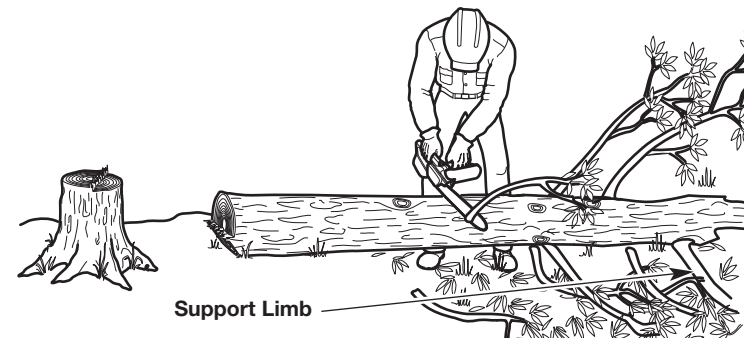

Fig. 18
1. Leave the larger support limbs under the tree for last (Fig. 18). These will keep the tree off the ground during the limbing process.
2. Cut one limb at a time. Stand on the opposite side of the tree from the limb (Fig. 18). Keep the trunk between the operator and the chain saw. To avoid binding the chain saw, branches under tension should be cut from the bottom up.